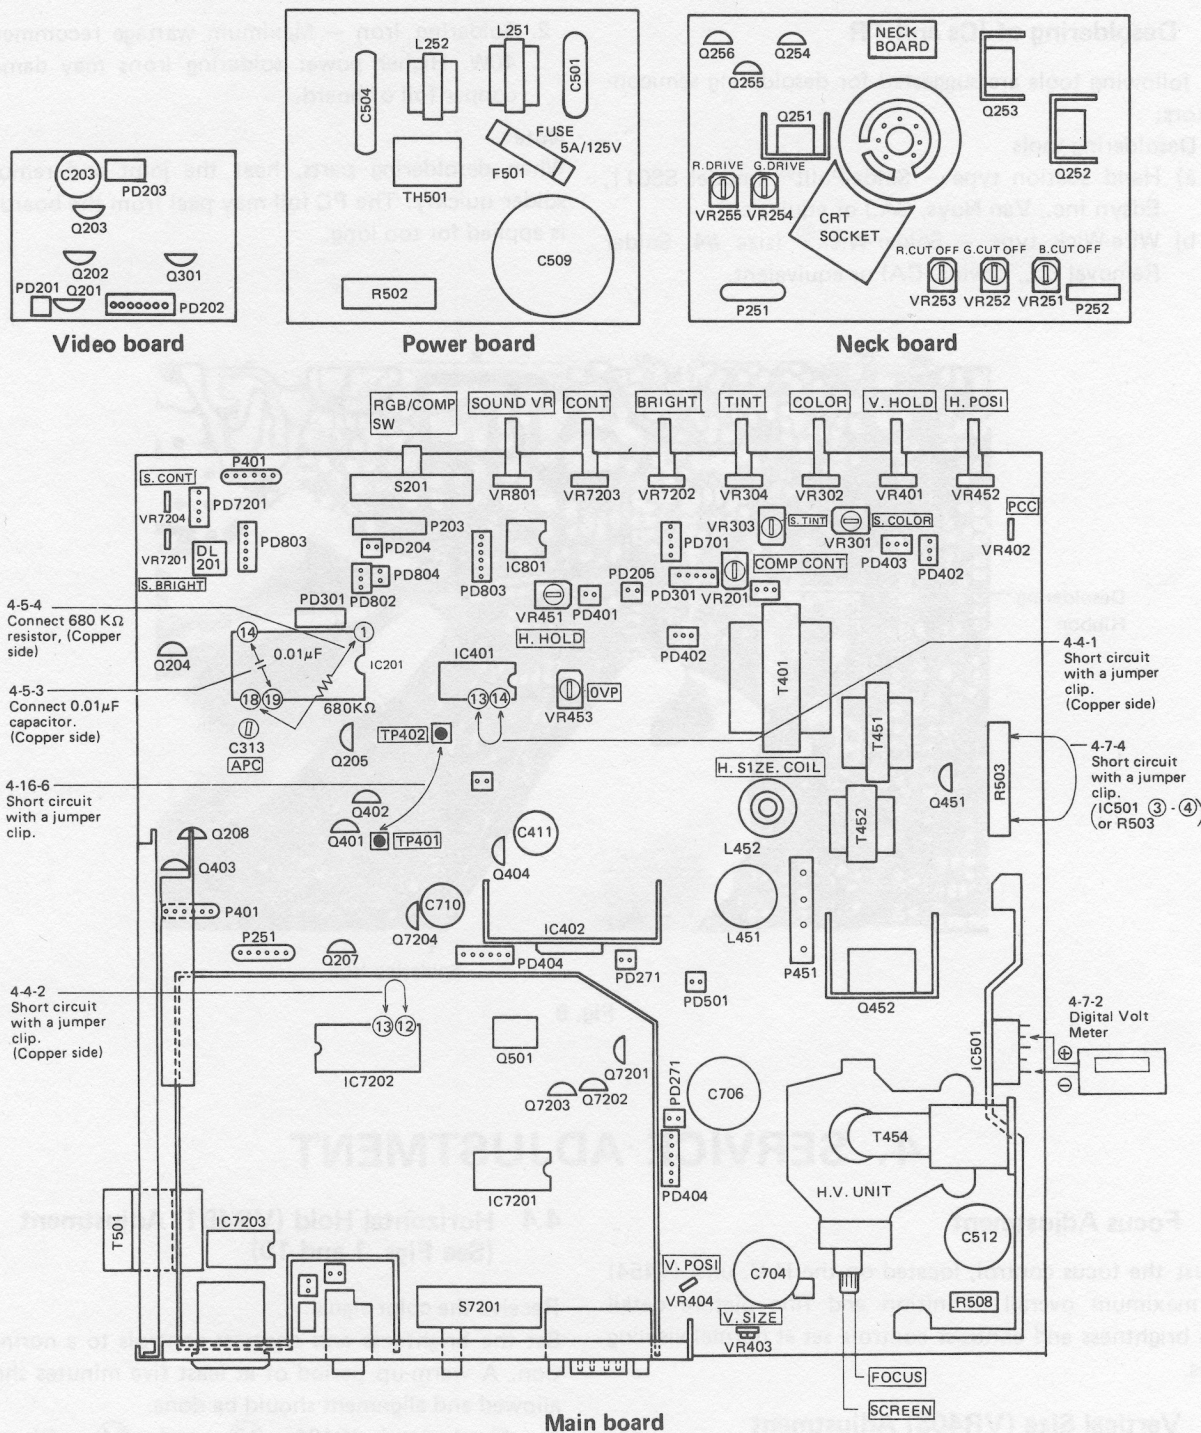

Fig. 10
1. Short circuit IC401 (13) and (14) with a jumper clip. See Fig. 10.
2. Short circuit IC7202 (12) and (13) with a jumper clip. See Fig. 10.
4.5 APC Adjustment (See Fig. 10)
4.7 Over Voltage Protector Control (VR453) Adjustment (See Fig. 10)
4.8 Vertical Position Control (VR404) Adjustment (See Fig. 10)
4.7 Commande de protection contre la surtension (VR453) Réglage (Voir la fig. 10.)
4.9 Horizontal Size Adjusting Coil (L452) (See Fig. 10)